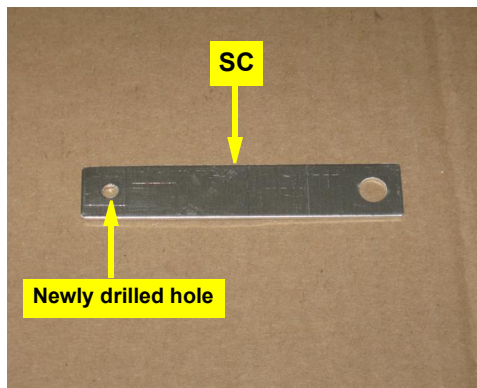

Figure 1a: Newly drilled sensor bracket
- a. Drill a 3/16" hole in the opposite end from the already drilled hole in the aluminum bracket SC (Figure 1a).